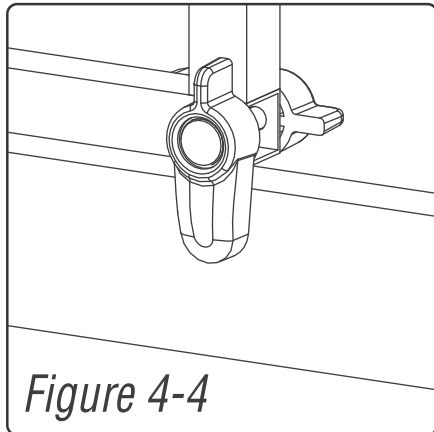

Figure 4-4
**To Close** - Pull the door shut and ensure that the door latch on top closes and then place the lock at the bottom of the gate down on the side occupied by the child, Gate will swing both ways unless one of the swing stops is down. Gate will not swing at all if both swing stops are down. (Figure 4-4)